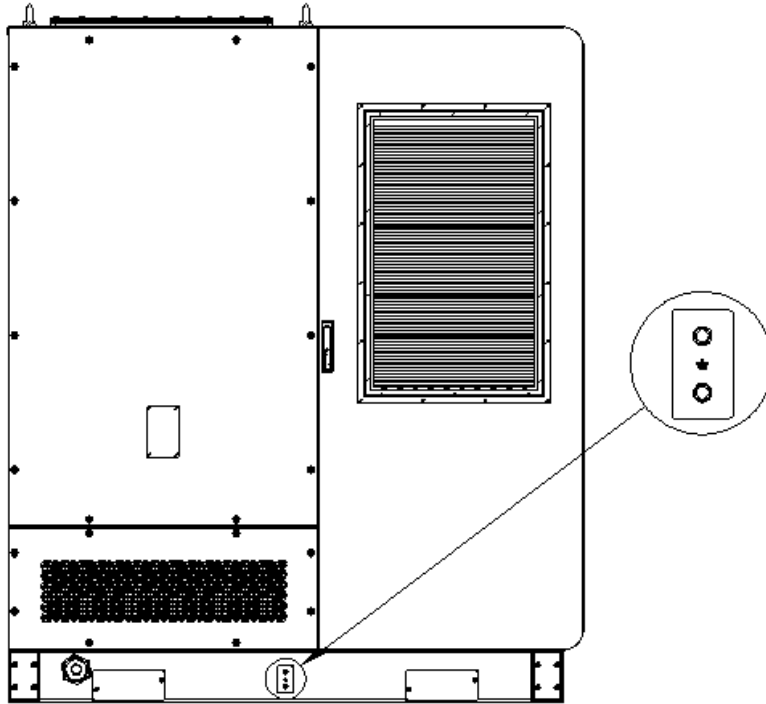

Figure 6-4 Grounding diagram of the equipment
- Step 1. Locate the grounding point of the cabinet, as shown in Figure 6-4.